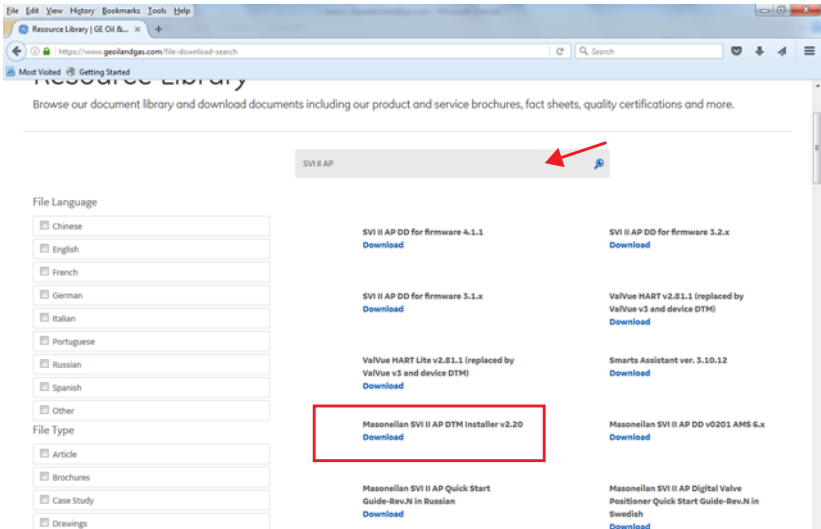

Figure 11 Download Center: Search for SVI II AP DTM
1. Go to the *Resource Library* (<https://www.geoilandgas.com/file-download-search>) and enter *SVI II AP DTM* in the search field (red arrow in Figure 11).
The results appear (Figure 11).